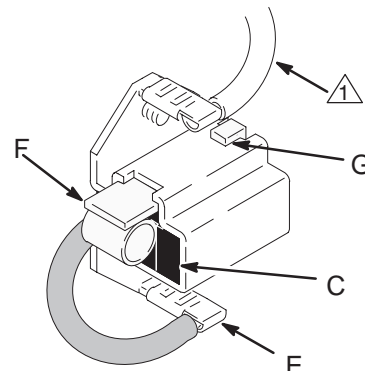

Fig. 8
7. Holding the spring clip (F) at a slight angle, slide the spring clip into the brush holder and hook it over the end of the holder. See Fig. 8. Pull on the spring clip to be sure it stays in place. Connect the brush lead to the blade connector (E).